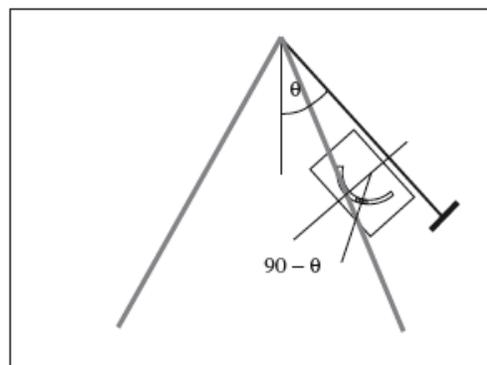

Figure 1
3. Person B, to the side, will use the lateral accelerometer to measure the maximum angle that the swinger moves to during the swing. Line the straw side of the accelerometer up with the chain. The angle θ that is indicated on the accelerometer is going to be 90° minus the angle from the vertical. The angle measured should be recorded as well as its complement. See Figure 1.